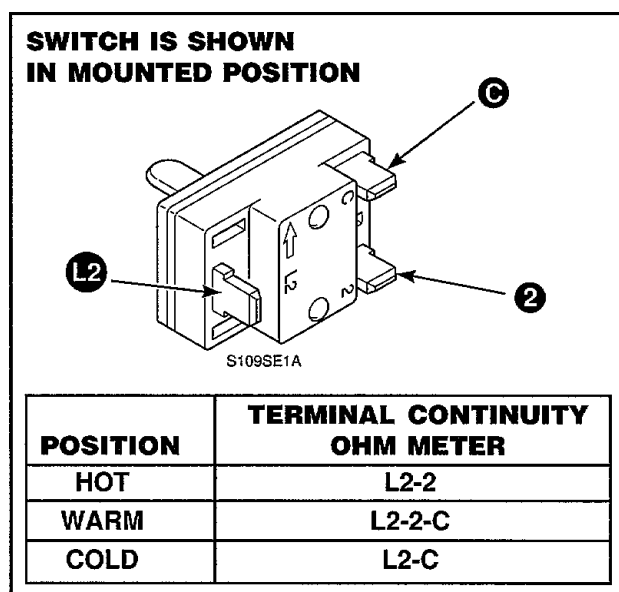

Figure 53
- f. Apply meter probes to terminals indicated in *Figure 53*.